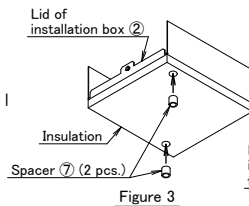

Figure 3
(1) Insert spacers ⑦ (2 pcs.) into the holes in the thermal insulation material affixed to the lid of installation box ②. (Refer to Figure 3)